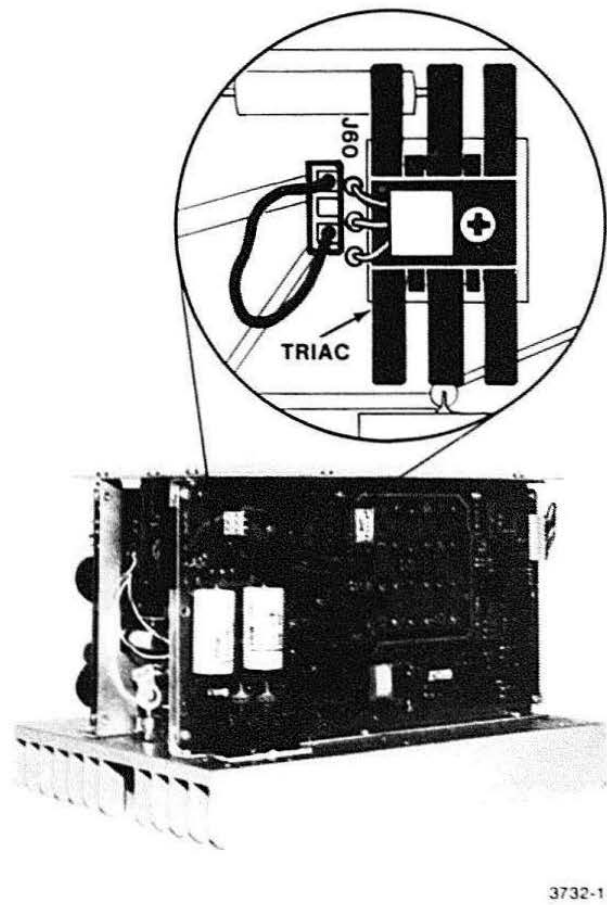

Figure 3-8. Bypassing Triac.
4. Place the jumper (Figure 3-2C) on J60 (Figure 3-8). This bypasses the triac. It also bypasses the Logical On/Off Switch and the power switch on the host product.